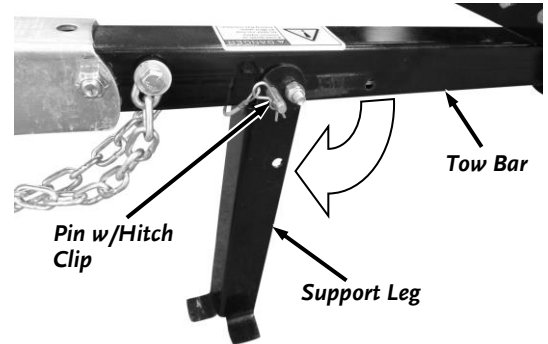

Figure 19
2. Rotate the Support Leg to the down (operating) position, align the holes in the Tow Bar and Leg, reinstall the Pin and secure with the Hitch Clip (**Figure 19**).